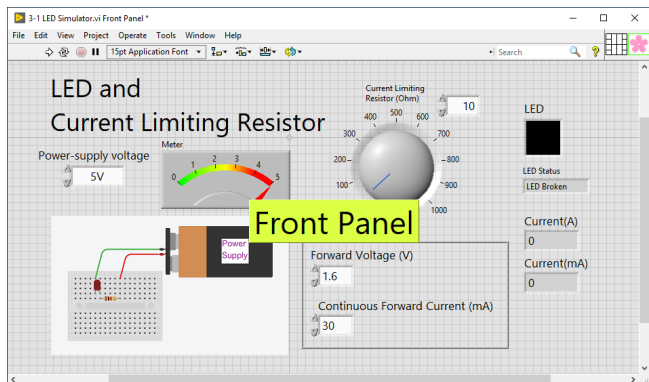

Figure 3-8 Front panel
Now let’s look more closely at how this LabVIEW program is made. The window you have been seeing is called **Front Panel**, and it is a window used to modify settings or view the return value of the program. In programming we call such window a **User Interface (UI)**. An interface is a connection between something and something else, and in case of programming, UI is a connection between a user and a program (**Figure 3-8**). Select from the menu bar of LabVIEW “**Window > Show Block**